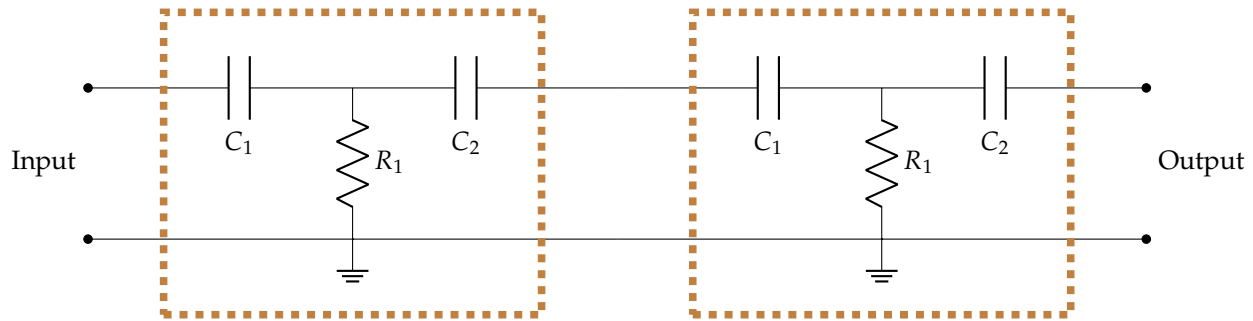

Figure 5.4: Cascaded two-port network
**Task 5.** Determine the combined ABCD parameters for the cascaded two-port network illustrated in Figure 5.4 in terms of  $C_1$ ,  $C_2$ ,  $R_1$  and the frequency  $f$ .
**Task 12.** Combine two RC networks (implemented under Task 7) to construct the cascaded two-port network illustrated in Figure 5.4. Connect a load  $Z_L = 1 \text{ k}\Omega$  to the output port of the cascaded network. Provide a 1 V peak-to-peak sinusoidal input with frequencies mentioned below, to the network using the signal generator. Observe the input and the output waveforms using the oscilloscope and calculate the voltage gains.